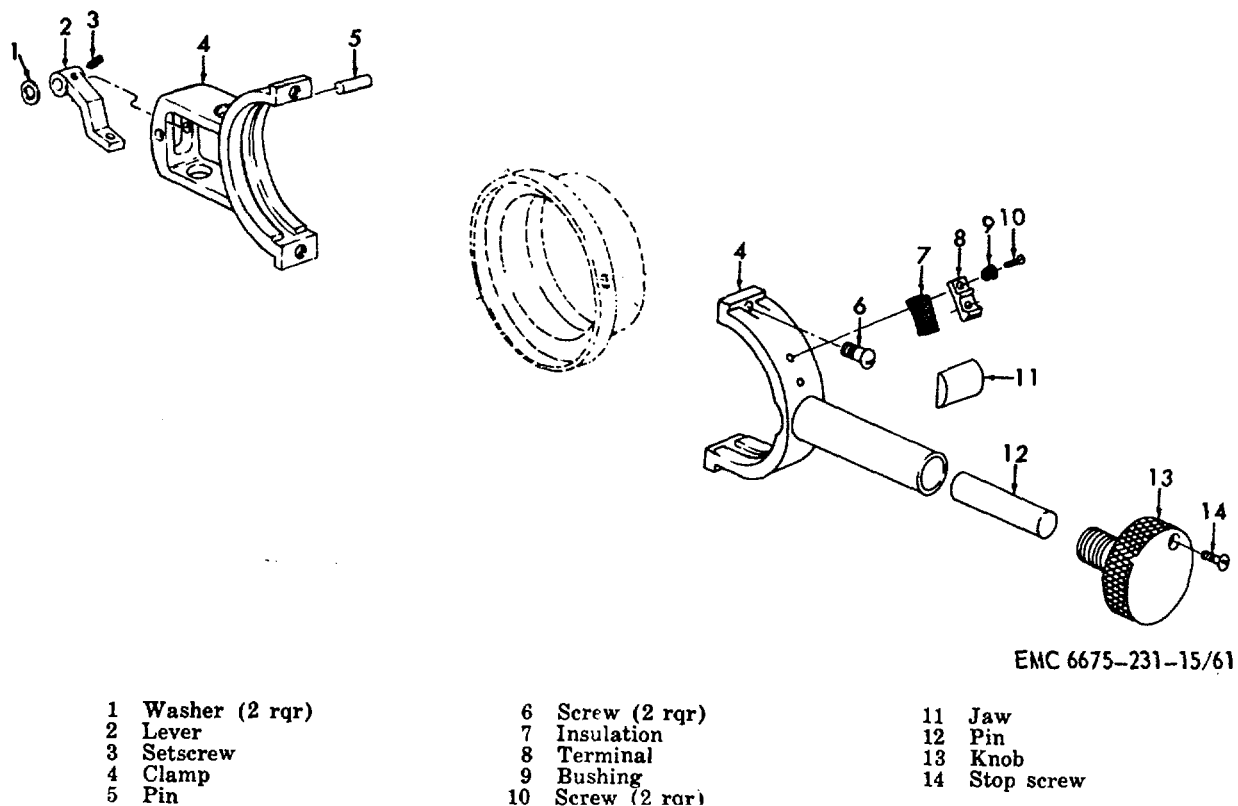

Figure 63. Horizontal clamp, disassembly and reassembly
b. *Disassembly.* Refer to figure 63 and disassemble the horizontal clamp.
- (1) Clean all metal parts with a cloth dampened with an approved cleaning solvent and dry thoroughly.
- (2) Inspect the clamp for burrs, cracks, breaks, and worn or damaged threads.
- (3) Inspect the pins and jaw for scoring, burrs, and wear. Inspect the lever for wear, cracks, and damage. Inspect the knob for burrs and damaged threaded surfaces.
- (4) Remove all burrs and minor scoring and scratches from polished surfaces.
- (5) Repair or replace all damaged or defective parts.
d. *Reassembly.* Refer to figure 63 and reassemble the horizontal clamp.